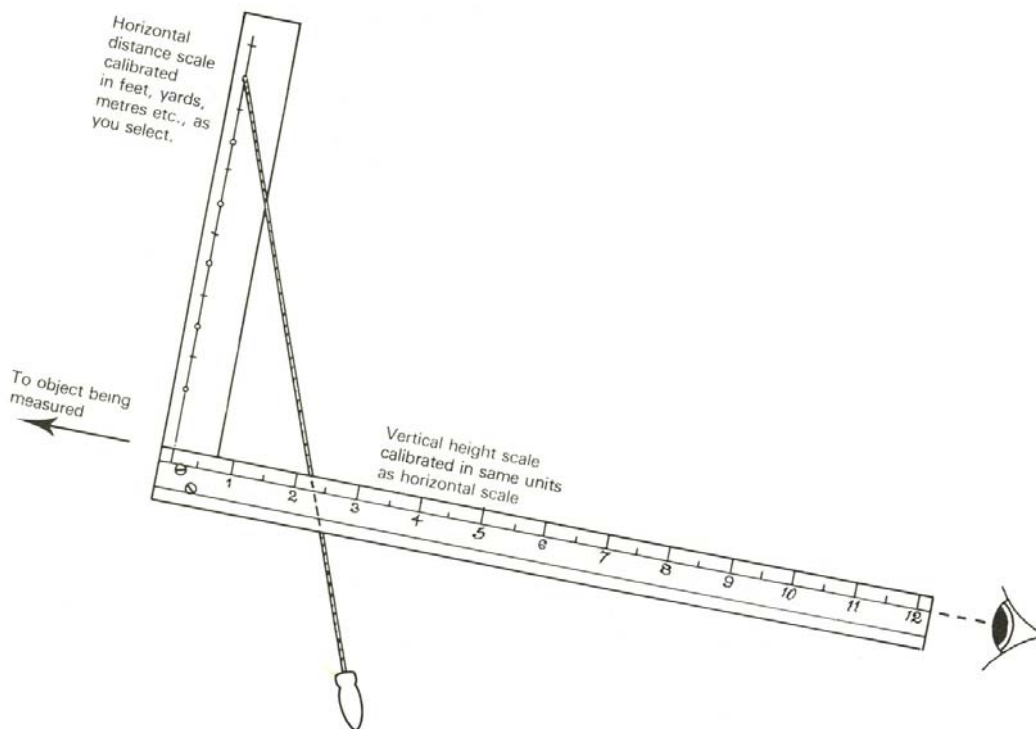

Figure 2: Using the measuring instrument.
5. Place a set-square along the top of the rule, line up its vertical side with the zero mark on the rule and draw a line running up the vertical strip. Mark points on this line at intervals of half-an-inch (Fig. 2).
3. Standing at this known distance from the object to be measured, sight the top of the object by eye along the top of the ruler (Fig. 2). Allow the string with the weight on its end to move freely, under gravity, between the flexible strip and the ruler.
Turn the instrument around and look down from point A (Fig. 2) to the point vertically below the point on the object being measured. Again, trap the string when the weight is stationary and read off the ruler the depth of the base of the object below your eye level. Add this to the reading of height and you will obtain the total height of the object from its base.